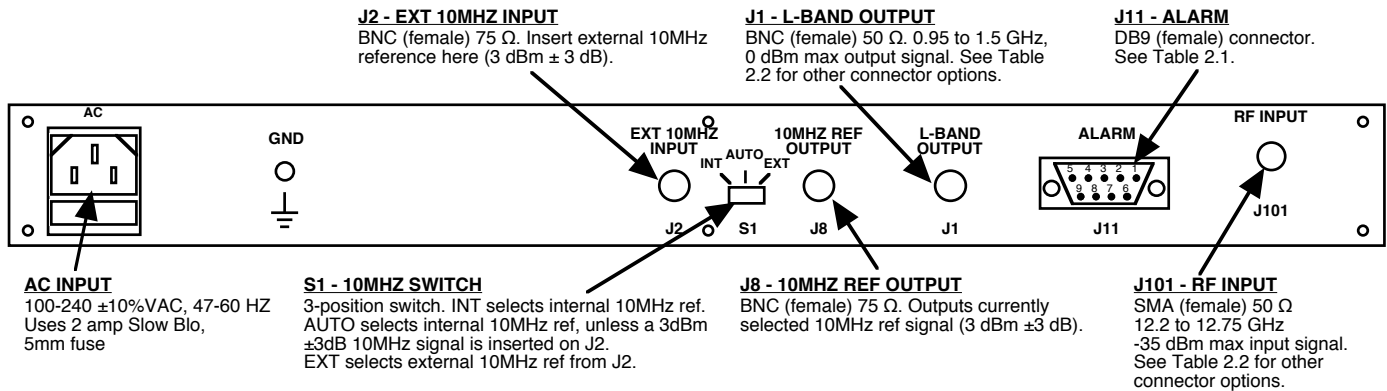

FIGURE 2.1 2116-125 Rear Panel I/O's
Figure 2.1 shows the input and output connectors on the rear panel.
1. Connect a -55 dBm to -35 dBm signal to RF INPUT, J101 (Figure 2.1).
5. Select either INT (for internal 10MHz ref), AUTO (for internal 10MHz ref UNLESS an external 10MHz, 3 dBm signal is connected to J2), or EXT (for external 10MHz, 3 dBm ref that is inserted at J2) on rear panel switch S1 (Figure 2.1).
7. Check that a 10MHz, 3 dBm \pm 3 dB signal is present at the 10MHZ REF OUTPUT (J8) (Figure 2.1).